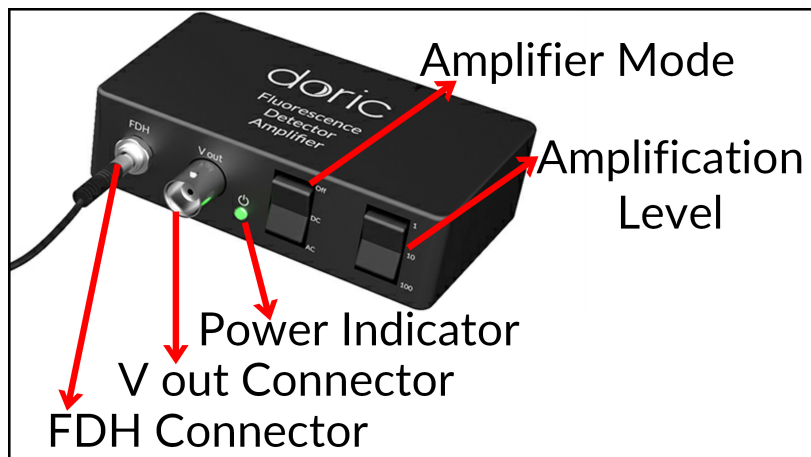
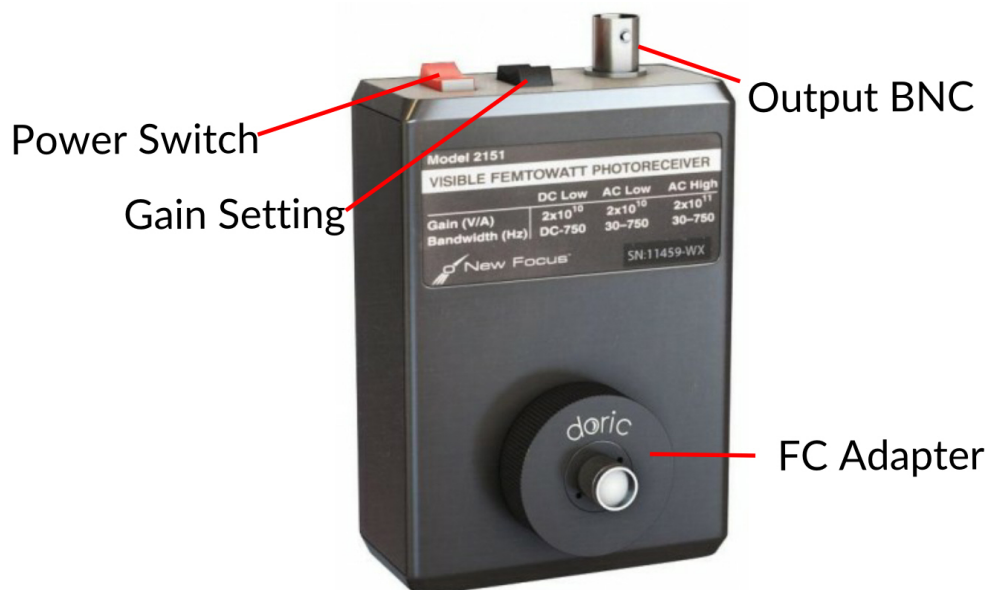
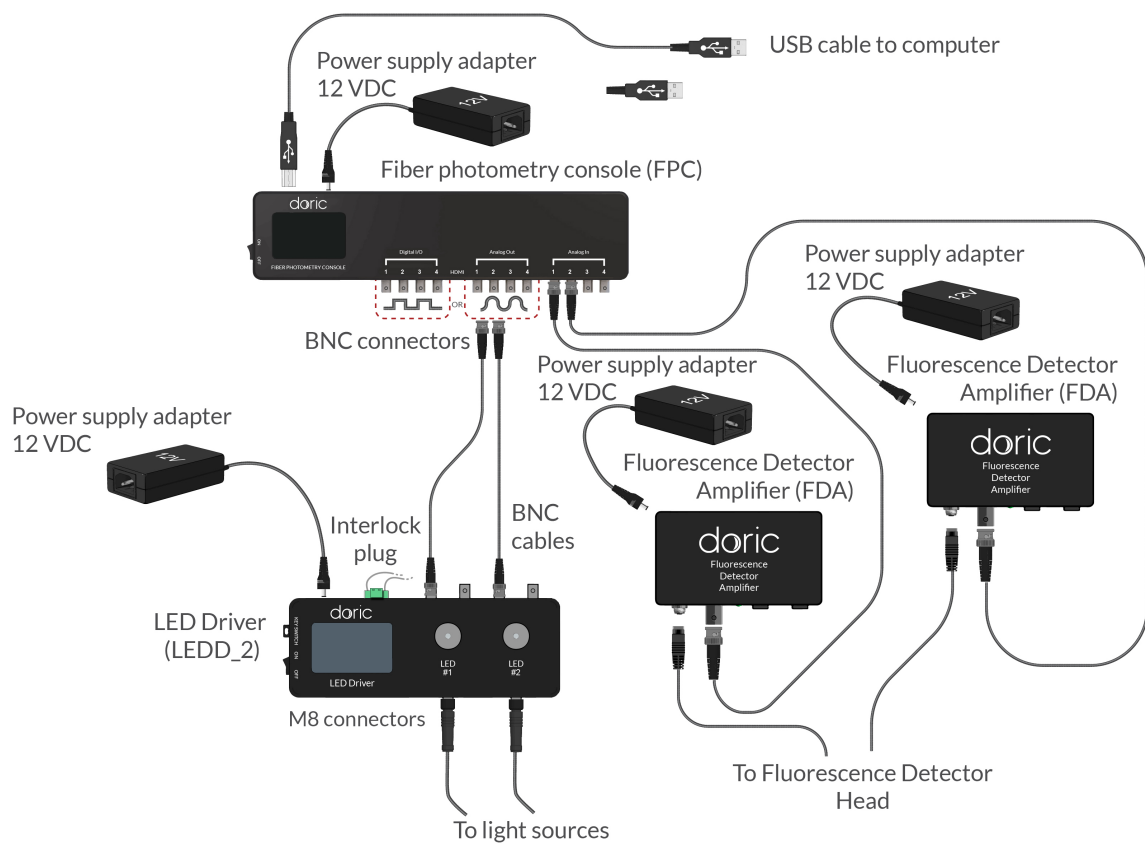
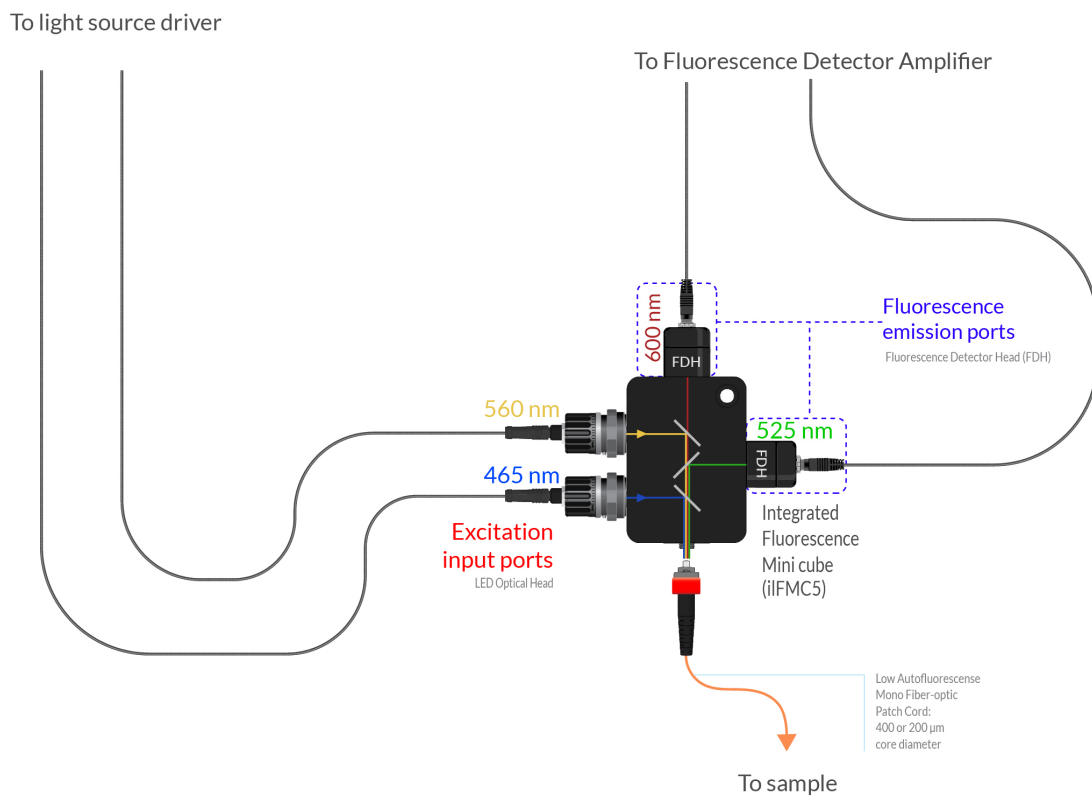

Figure 1.11: Doric Fluorescence Detector Amplifier Elements
Figure 1.12: Newport Visible Femtowatt Photoreceiver Module Model 2151 + Doric FC Adapter
Figure 2.1: Connections to the Fiber Photometry Console
Figure 2.2: *Integrated Fluorescence Mini-cube Connections*
- The **FDH Connector** (Fig. 1.11) is an M5 type connector used to link the amplifier and the head using a shielded M5 cable.
- The **V out Connector** (Fig. 1.11) is a BNC type connector used to connect the fluorescence detector with a DAQ system.
- The **Power Indicator** light (Fig. 1.11) shines green when the detector is on.
- The **Amplifier Mode** switch (Fig. 1.11) is used to switch the detection mode from **Off** to **AC** or **DC**.
- The **Amplification Level** switch (Fig. 1.11) allows the choice of amplification levels at 1, 10 or 100 times.
4. **Connect the LED Module.** The *Built-in LED Optical Heads* come pre-installed on the *Integrated Fluorescence Mini Cube*. Connect the *LED Driver* to the *Built-in LED Optical Heads* using the *M8 Cables* (Fig. 2.1).
5. **Connect the Fluorescence Mini Cube.** The sample ports send light to the experimental subject through a *LAF Patch Cord* (Fig. 2.2). Please note that the use of a rotary joint may cause some signal variations and loss of light. In this case, extra care is required during the data analysis and a reference channel is helpful. Perform the following steps to connect the patch cord to the sample port.
- The *Built-in Fluorescence Detector Head* comes pre-installed into the *Integrated Fluorescence Mini-Cube*. Connect the head to the *Fluorescence Detector Amplifier* (Fig. 1.11) using the *M5 Detector Cable*¹. Use a BNC cable to connect the amplifier to the analog input port of the *Fiber Photometry Console* (Fig. 2.1). We recommend the verification of gain settings, as signals may vary from one experiment to another and can require different parameters. In fiber photometry, the DC amplifier mode is needed. The amplification level can be adjusted depending on the experiment.
- The **Newport Visible Femtowatt Photoreceiver Module Model 2151** (Fig. 1.12) is connected to the Fluorescence Mini Cube emission ports with a **600 μm core, NA 0.48 optical fiber patch cord** (Fig. 2.2). Use a BNC cable to connect the Newport photoreceiver module in the Analog input port of the Fiber Photometry console (Fig. 2.1). The Newport photoreceiver module is battery operated and is turned on with the red switch. Ensure the module is switched off when the experiment is over to preserve battery power. We recommend the verification of gain settings, as signals may vary from one experiment to another and can require different parameters. In any case, the DC low gain setting should be used.